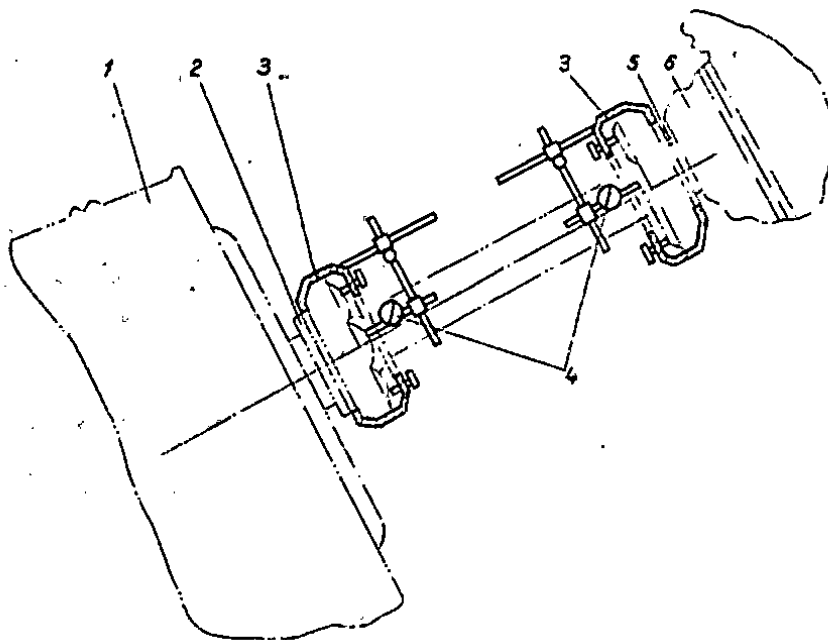

Fig. 25. Diagram of shafts centering check
- c) attach a special clamp with an indicator to the semi-coupling outer flange as shown in Fig. 25.